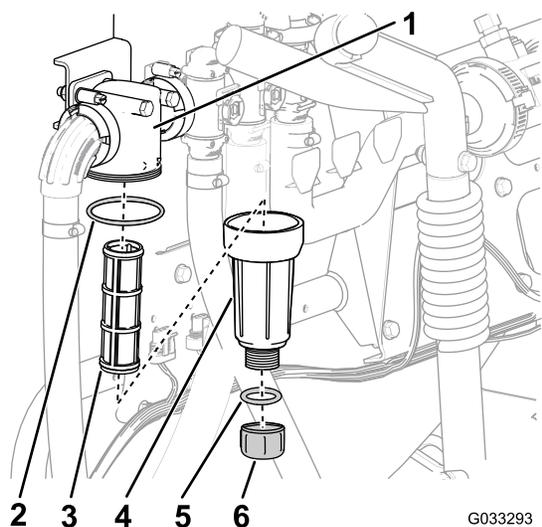

Figure 61
2. Align a drain pan under the pressure filter (Figure 61).
3. Rotate the drain plug counterclockwise and remove it from the bowl of the pressure filter (Figure 61).
4. Rotate the bowl counterclockwise and remove from its filter head (Figure 61).
5. Remove the old pressure filter element (Figure 61).
6. Check the O-ring for the drain plug (located inside the bowl) and the O-ring for bowl (located inside the filter head) for damage and wear (Figure 61).
7. Install the new pressure filter element into the filter head (Figure 61).
8. Install the bowl onto the filter head and tighten by hand (Figure 61).
9. Install the plug into the bowl and tighten by hand (Figure 61).